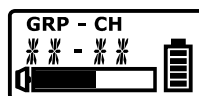

Fig. 12
- (3) The specific group and channel set via PC will display * * - * *. Fig. 12